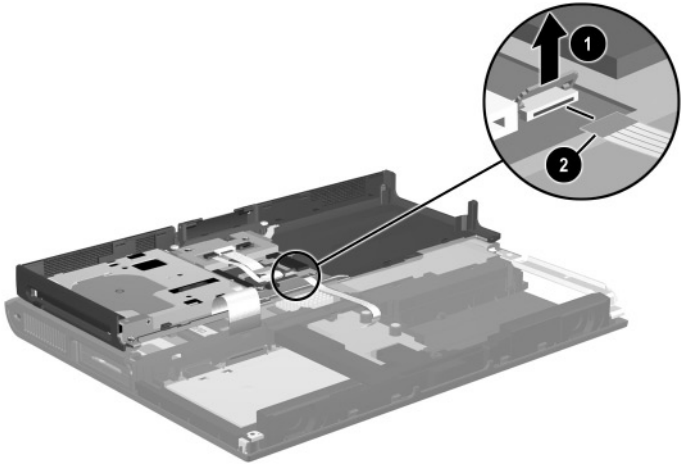

Figure 5-29. Disconnecting the Keyboard-to-TouchPad Cable
Dual Stick notebook models have an additional cable that must be disconnected. Release the ZIF connector ❶ to which the keyboard-to-TouchPad cable is attached and disconnect the cable ❷ from the TouchPad (Figure 5-29).